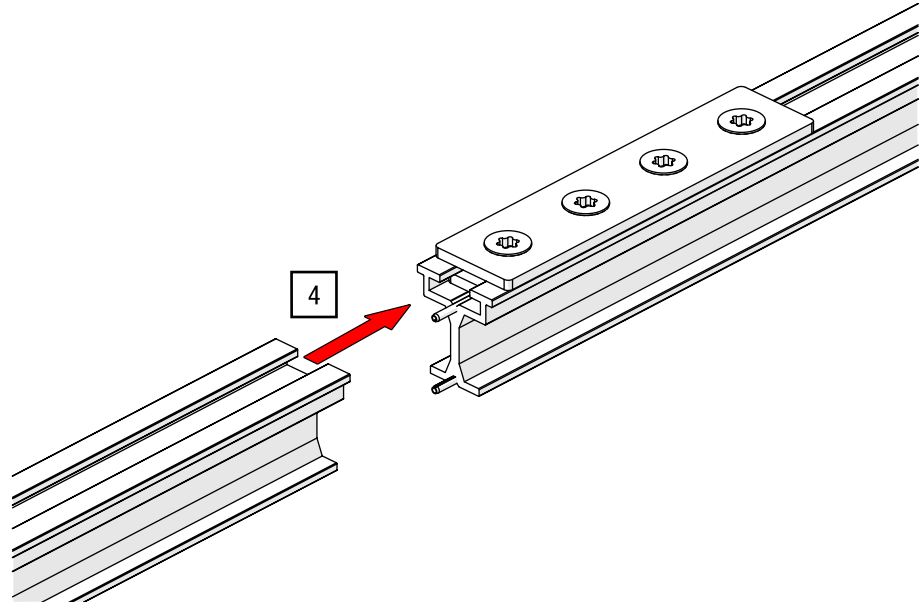

Fig. 45: Track splices – Plug the track parts together
4. Place the second track section on the connecting pins and position it flush with the first track section (see Fig. 45).